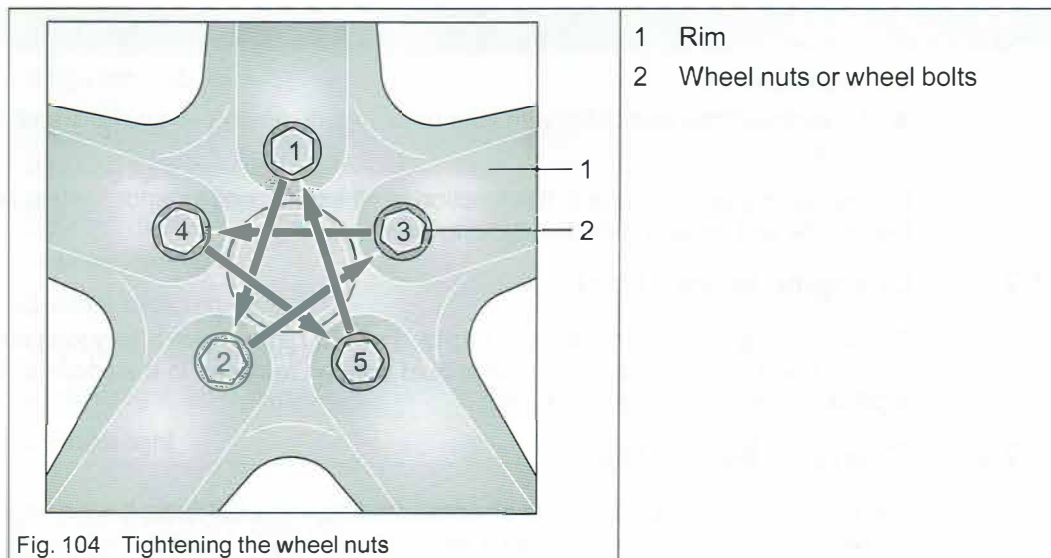

Fig. 104 Tightening the wheel nuts
- ➔ Tighten the wheel nuts or wheel bolts (Fig. 104/2) in the sequence 1 - 2 - 3 - 4 - 5.